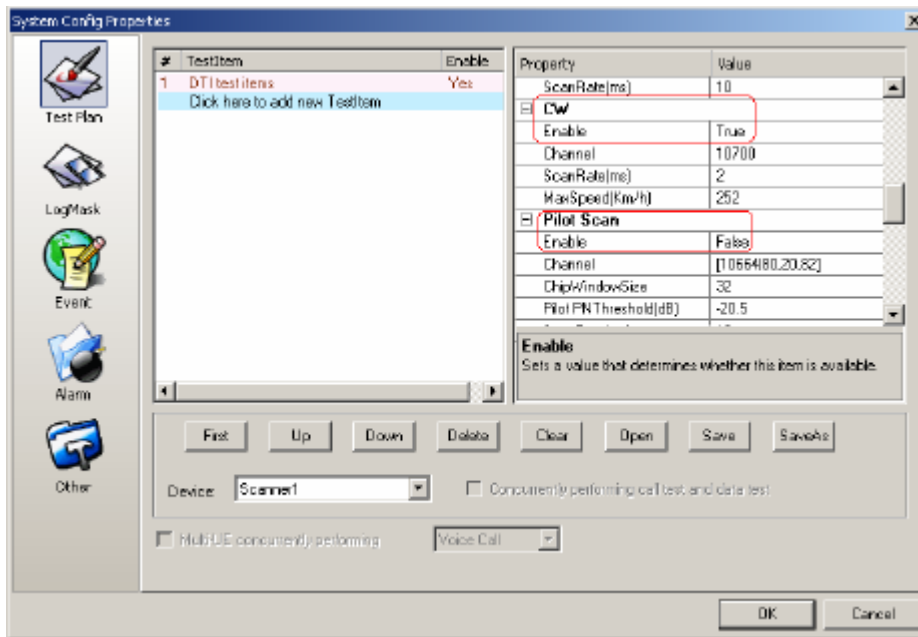

Figure 10-4 Enabling the CW test items
- 3) Enable the CW measurement. Namely, ensure that **TRUE** is selected in the **Enable** area, while the **False** is selected for other test items, as shown in Figure 10-4.